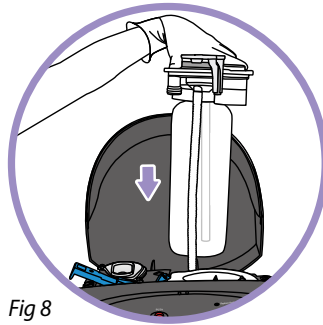

Fig 8
- Insert the new SmartFlo™ cartridge and secure into place by pressing down (Fig 8).